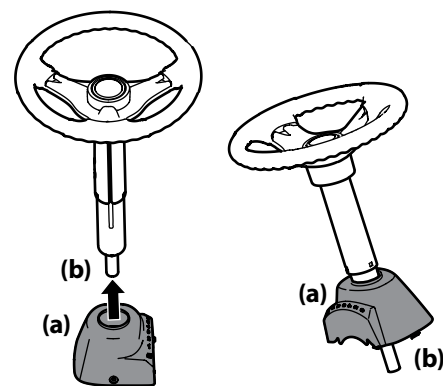

Figure 2-2
3. Slide the pedestal cap (a) onto the steering shaft (b) so that when the steering shaft (b) is installed on the riding mower, the pedestal cap (a) will be upright as shown in Figure 2-2.